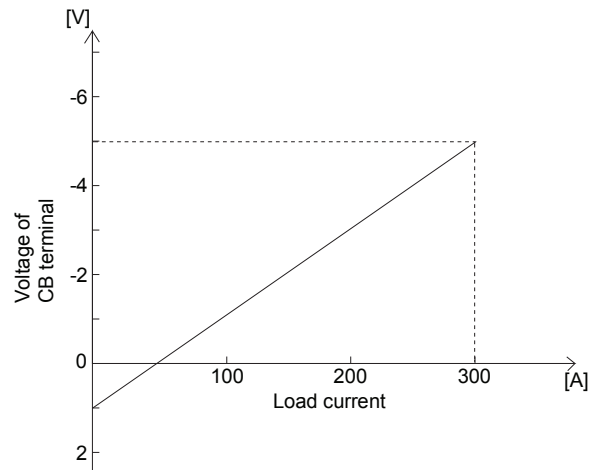

Fig.6.1 Load current conversion graph(PBA1500F-5)
■Fig.6.1 shows the relationship between the voltage of the terminal CB and the output current.
Fig.6.1 shows a typical characteristic of PBA1500F-5. Please contact us for the characteristics of the other models.
The output current shown in Fig.6.1 should be used only as a guide.